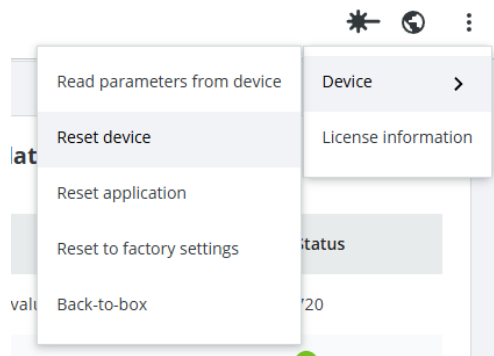

Figure 41: Resetting to factory settings (Factory Reset)
- SOPAS / User Interface (see figure 41, page 49)